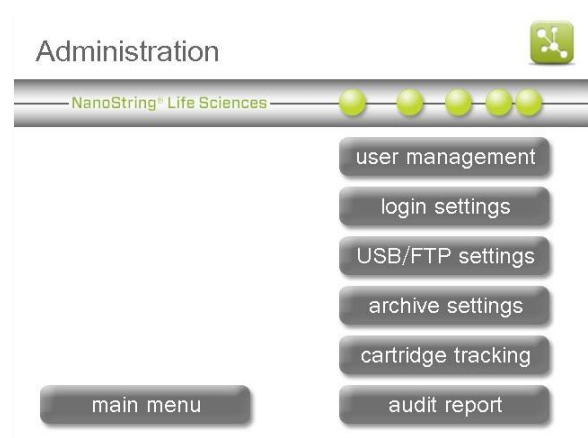

Figure 40: The Administration Menu.
The Administration Menu will appear (**Figure 40**).
- Role – Users can be identified as “General” or “Administrator.” Administrators have access to the Administration Menu (**Figure 40**) and can create other user profiles.